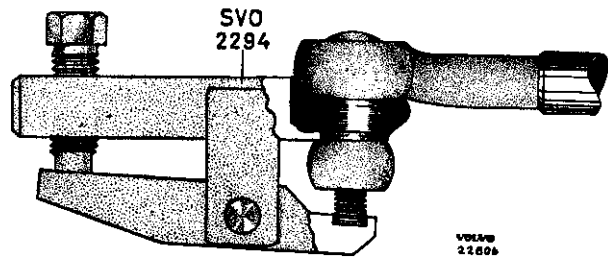
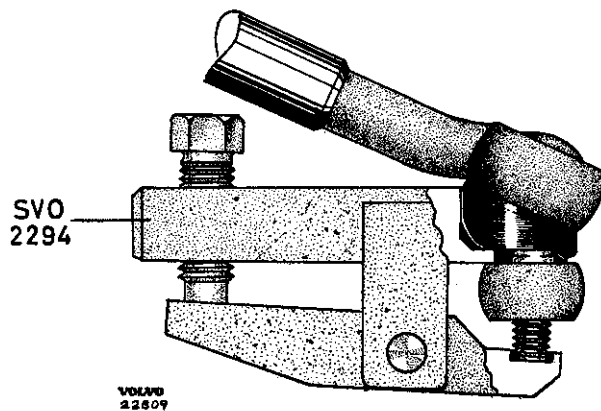

Fig. 32. Removing ball joint.
Fig. 33. Removing the steering rod.
The steering rod ball joints are made integrally with the steering rod so that the rod must be replaced complete. When removing, the split pins and castle nuts are first removed. Tool SVO 2294 is then placed on the ball joint as shown in Fig. 32. Press in the tool properly and make sure that the thread on the ball joint enters the recess in the tool. Screw in the screw until the ball joint releases. If the steering rod is to be removed without taking off the wheels, the ball joint on the pitman arm and idler arm respectively must first be disconnected as above. When doing this the steering rod is turned forwards and upwards and the tool placed on the ball joint as shown in Fig. 33.
The tie-rod ball joints can be replaced independently. When replacing, the ball joint is first disconnected from the pitman arm or idler arm respectively as above (see Fig. 32.) The locknut or clamping screw respectively is then slackened and the ball joint screwed out. The new ball joint to start with is screwed in the same number of turns so as to facilitate adjusting toe-in. Lock the ball joint to the rod.
2. Screw back the screw on puller SVO 2294 and place the tool on the tie-rod ball joint at the idler arm as shown in Fig. 32. Press in the tool properly and make sure that the thread on the ball joint enters the recess in the tool. Screw in the screw until the ball joint releases from the idler arm.